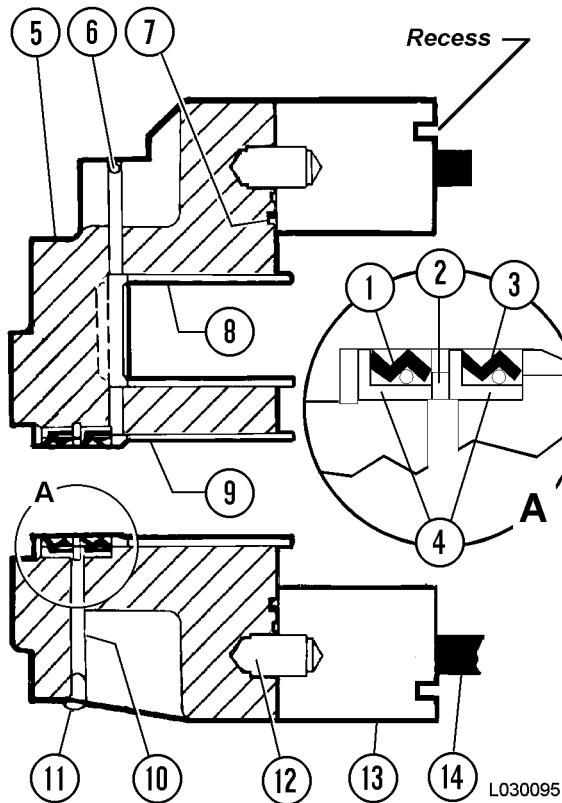

FIGURE 3-8. SHAFT SEAL INSTALLATION
7. Lubricate the thru stud threads (14, Figure 3-8) with hydraulic oil. Thread the studs into flange until snug. There are 4 long studs (11, Figure 3-9) and 4 short studs (12). Refer to Figure 3-9 for proper stud location.
8. Lubricate and install O-ring (7, Figure 3-8). Install dowel pins (12), if removed. Install gear plate (13) with recess in gear plate facing up or toward the connector plate when gear plate is installed.